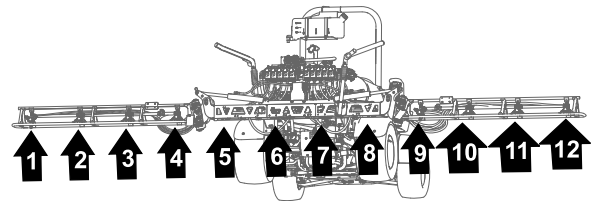

Figure 132
1. Route the hoses for sprayer nozzles 1, 2, 3, and 4 through the R-clamp at the left outboard end of the center-spray section (Figure 132 and Figure 133).
2. Route the hoses for sprayer nozzles 7, 8, 9, and 10 through the R-clamp at the right outboard end of the center-spray section (Figure 132 and Figure 133).
3. Route the supply hoses 279 cm (110 inches) and barbed-hose shanks (3/4 inch) along the spray section to sprayer nozzles 1 and 10 as shown in (Figure 132 and Figure 133).
- Route the supply hoses 234 cm (92 inches) and barbed-hose shanks (3/4 inch) along the spray section to sprayer nozzles 2 and 9 along the spray section as shown in Figure 132 and Figure 133.
- Route the supply hoses 188 cm (74 inches) and barbed-hose shanks (3/4 inch) along the spray section to sprayer nozzles 3 and 8 as shown in Figure 132 and Figure 133.
- Route the supply hoses 188 cm (74 inches) and barbed-hose shanks (3/4 inch) along the spray section to sprayer nozzles 4 and 7 as shown in Figure 132 and Figure 133.